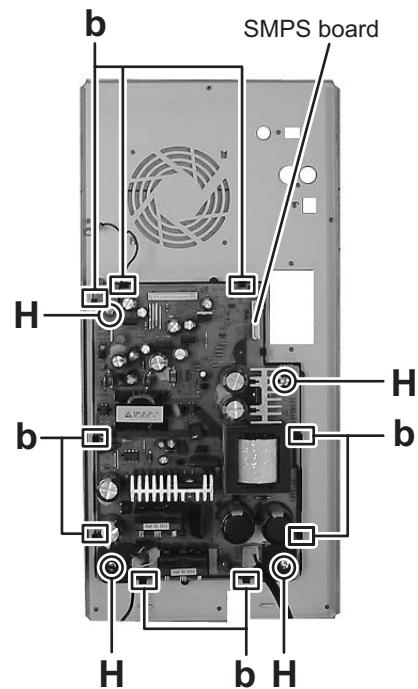

Fig.7
- (4) From the reverse side of the rear cabinet, remove the four screws **H** attaching the rear cabinet. (See Fig.7)
- (5) Release the nine claws **b**. (See fig.7)
- (6) Take out the SMPS board from the rear cabinet.